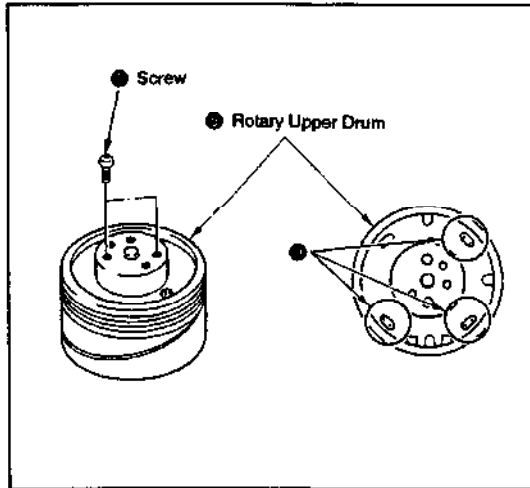
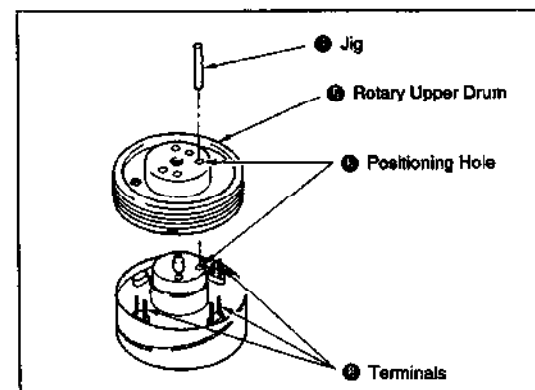

Fig. 3-22.
Fig. 3-24.
- 1) Detach the six solderings ①, then use a pair of tweezers or the like to confirm that the terminals passing through the board holes from below can move freely.
- 2) Remove the two screws ② (See Fig. 3-22).
- 1) Wipe clean the flange surface and the rotary upper drum ⑥ surface that makes contact with it, and confirm that they are free from dirt and scratches.
- 2) Insert the jig ③ (Ref. No. J-7) into the drum positioning hole, then set the rotary upper drum ⑥ by passing the jig through its positioning hole ⑦.
- Note:** Confirm that the terminals ⑧ protrude slightly from the rotary upper drum board holes (See Fig. 3-24).
- 3) Remove the jig ③ and push down the rotary upper drum ⑥ gently by hand. If it does not go all the way down, secure it temporarily by tightening the two hexagon socket screws ⑤ alternately.
- 4) Insert the jig ③ into the positioning hole ⑦ again and confirm that it goes in smoothly. If it does not, loosen the two screws ⑤, repeat step 3 of the Removal paragraph and restart the setting procedure.
- 5) Tighten the screws ④.
- 6) Solder the terminals ⑧ (& ⑨ in Fig. 3-22).